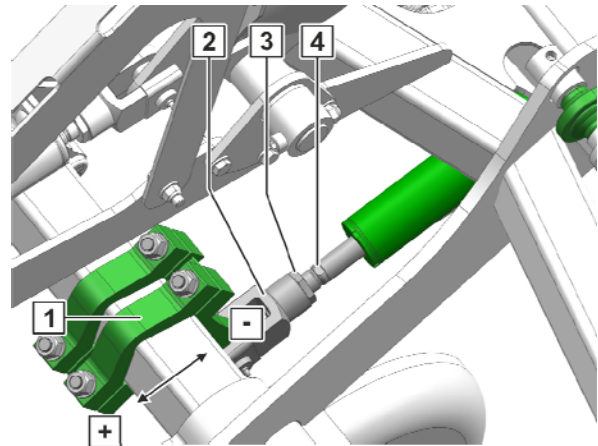

Fig. 182
1. Loosen the lock nut (Fig. 182/3).
2. Turn the piston rod (Fig. 182/4) until the coulter pressure lever (Fig. 182/1) reaches the desired position.
3. Tighten the lock nut against the fork (Fig. 182/2).
2. Turn the piston rod (Fig. 182/2) until the coulter pressure lever (Fig. 182/1) reaches the desired position.
3. Tighten the lock nut against the fork (Fig. 182/4).